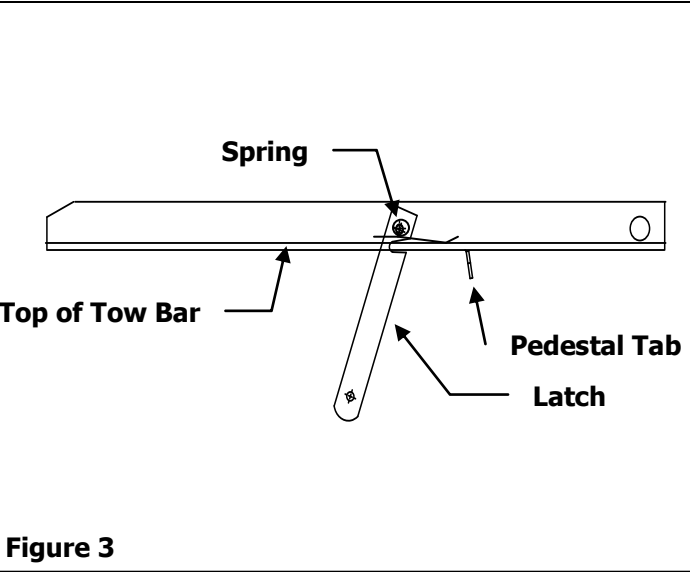

Figure 3
- 3. Slide the Latch, Spring and Spacer through the Tow Bar. This will cause the Spring to open. See Figure 3.